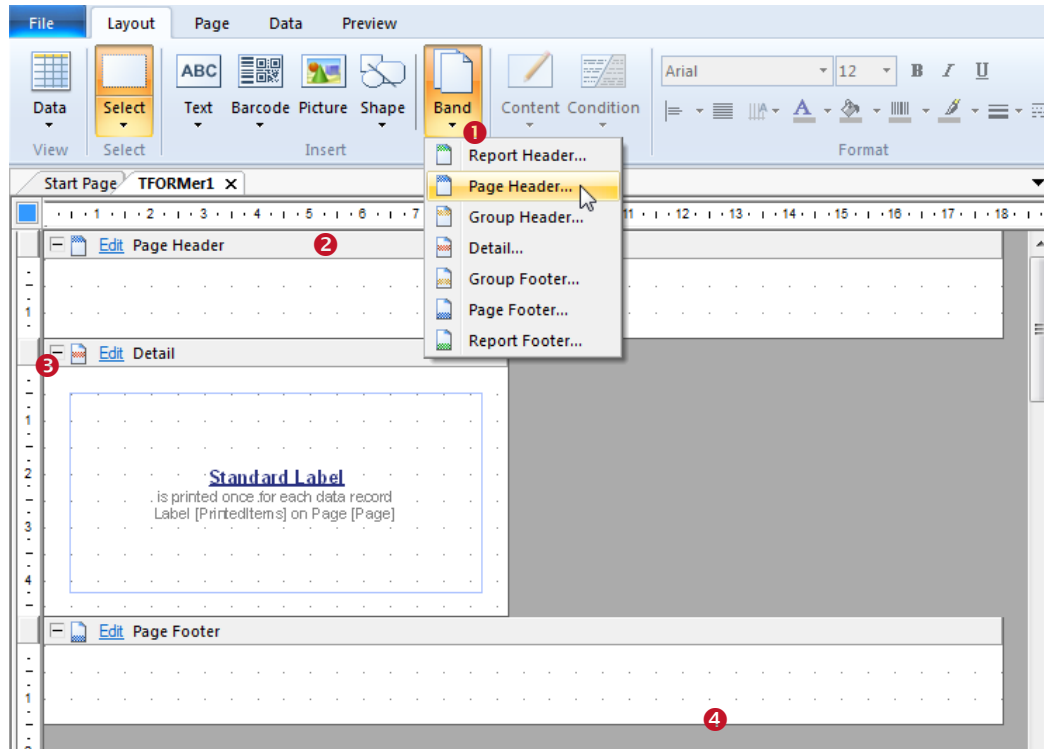

Figure 36: Insert a Band
For reports the height of bands is freely adjustable. It can be changed with the mouse by clicking and dragging the lower band margins (see Figure 36, ④). Alternatively you can adjust the height in the group "*Position*" in the properties window.